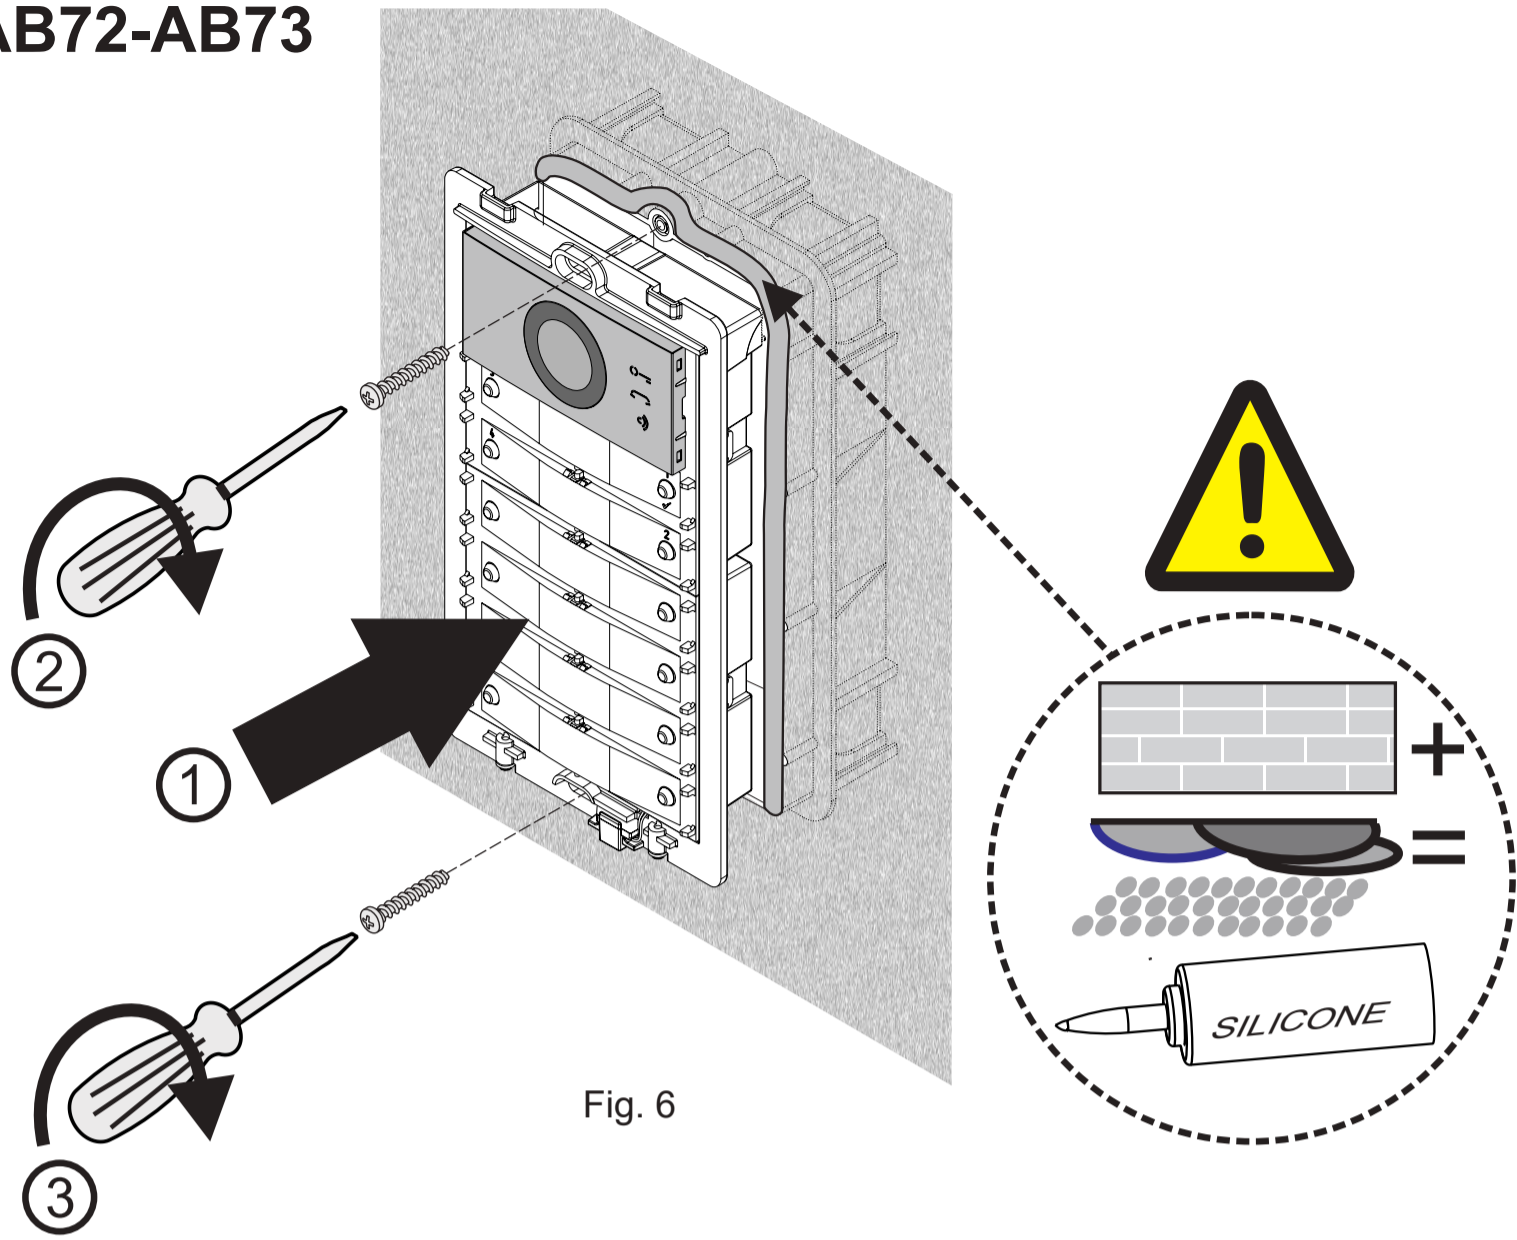

Fig. 6
- Screw the frame to the wall box (see figure 6).